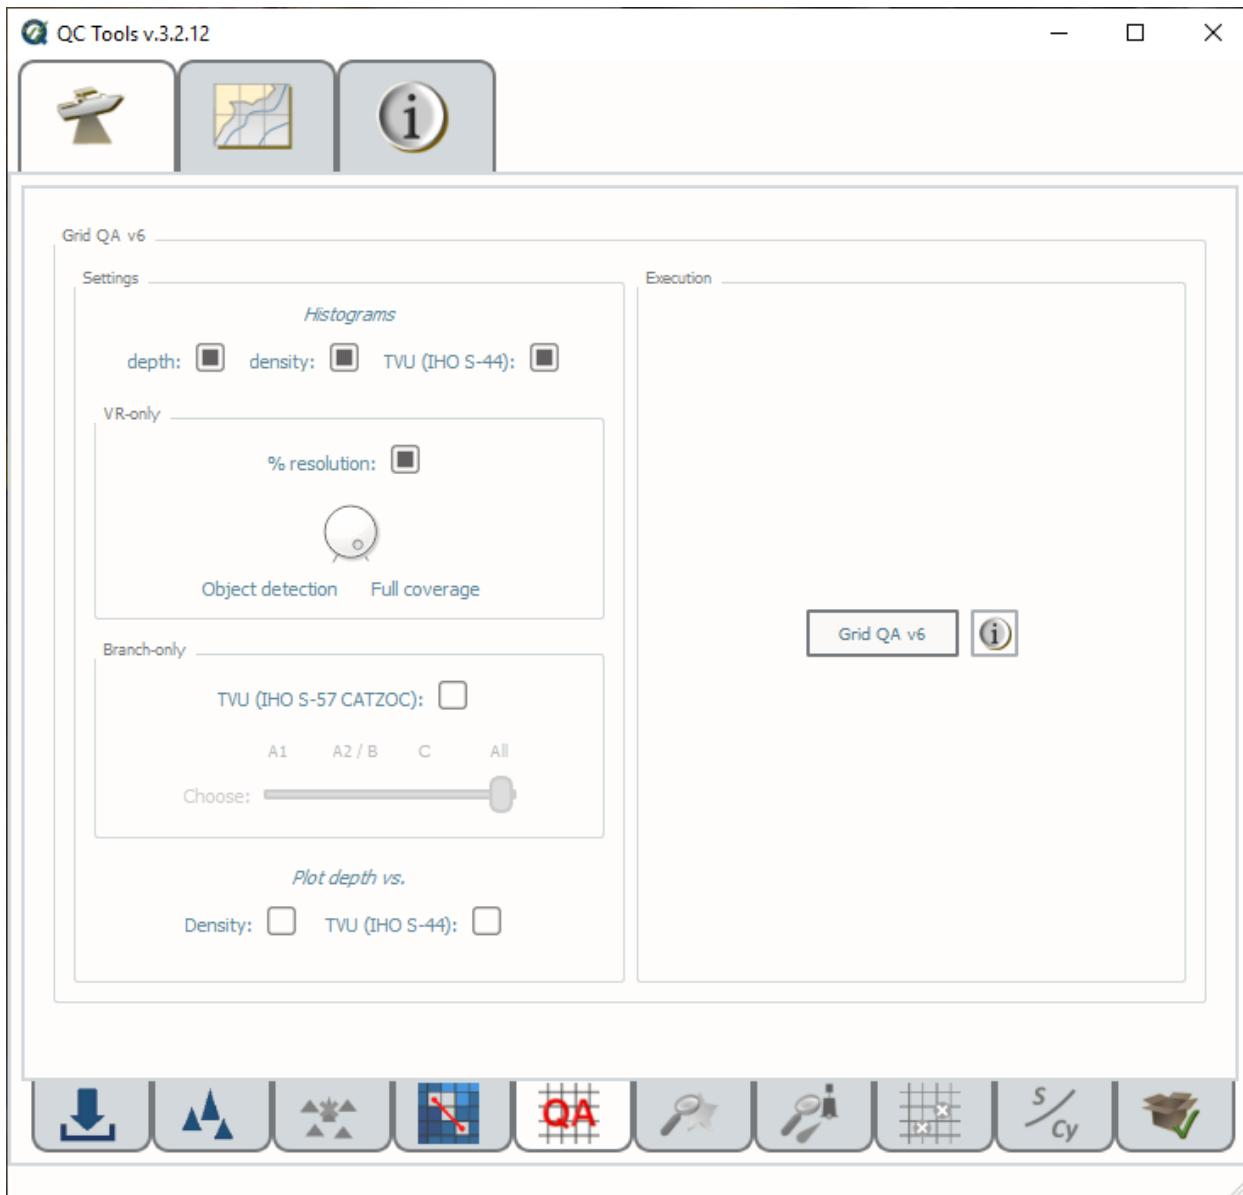

Fig. 2.24: The **Grid QA** tab.
- Select the **Grid QA** tab (Fig. 2.24) on the bottom of the QC Tools interface.